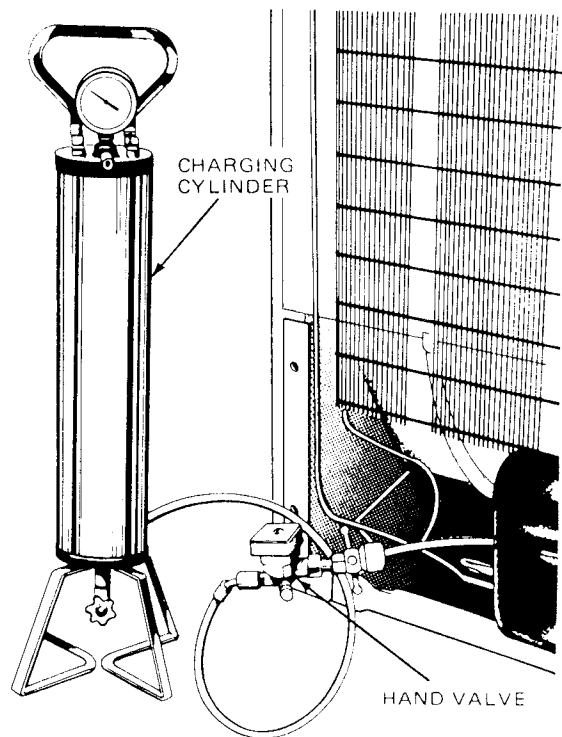

Fig. 12-9 Charging cylinder. (Kelvinator)
8. Connect a drum of R-12 refrigerant, or a charging cylinder, of the hand valve at the process-tube adapter. See Fig. 12-9. Purge the charging hose between the drum or charging cylinder and the hand valve. Open the valve on the drum, or charging cylinder. Allow the liquid refrigerant to fill the charging hose up to the hand valve at the process tube.